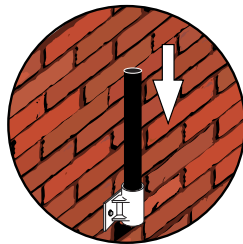

Fig 2.
- 2, Place the ground socket into the bottom bracket, ensuring it sits in the bottom of the bracket properly and level. (see Fig 2)